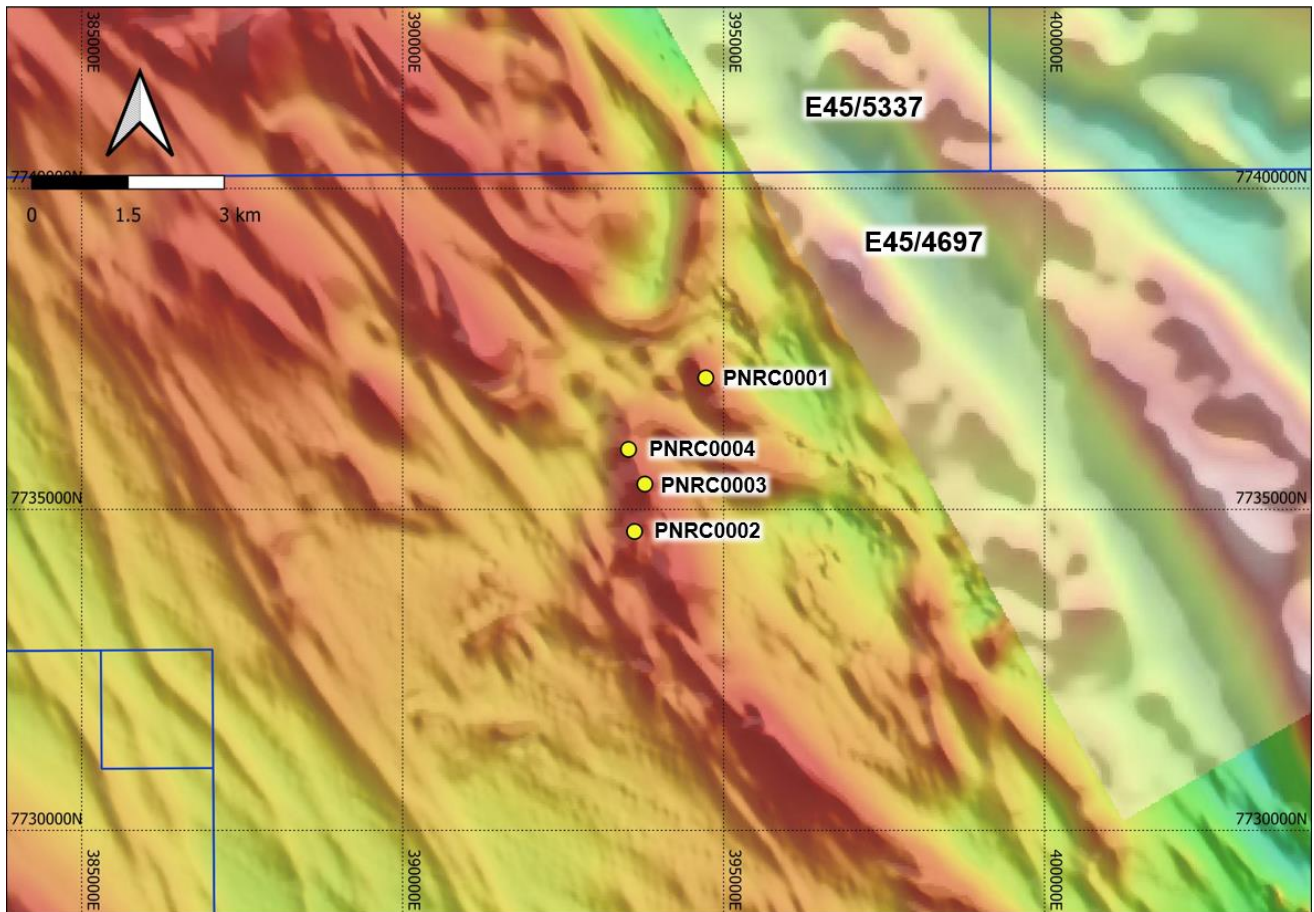

Figure 2: A regional magnetic image over a portion of the Paterson North Project showing the location of the four drill holes reported herein
Reverse Circulation (RC) drilling at Paterson North commenced in late June (refer ASX release 7/6/2022) and was completed in mid-August. The RC drilling tested selected target areas, by sampling the prospective Proterozoic basement rocks after penetrating through more recent sedimentary cover. Assays have been received from the first batch of samples submitted from four holes drilled in the northern part of the project area, testing a prominent magnetic feature (Figure 2, Table 1). A further 18 holes were drilled in other parts of the project and assay results from these holes are pending.